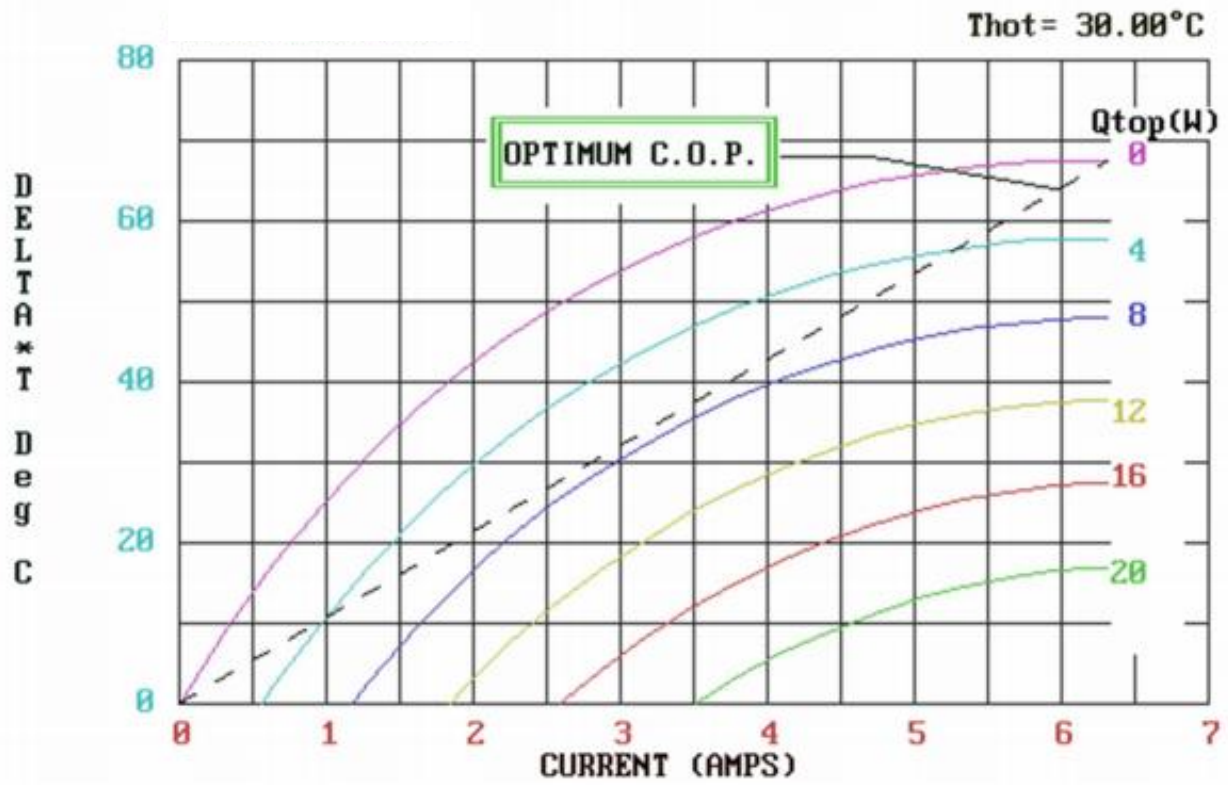

Figure 2.
5. Use the charts provided in Figure 2 to Figure 9, to decide which TEC to use, what is the heat needed to be dumped through the heat sink, what is the heat sink temperature, etc.